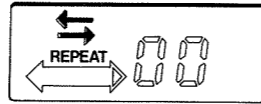

Fig. 1-3c
- Select repeated playback of the side which is being played by selecting the repeat mode (Fig. 1-3c). The recorder will continue to play back the selected side until key ②③ "STOP/CLEAR" is pressed.